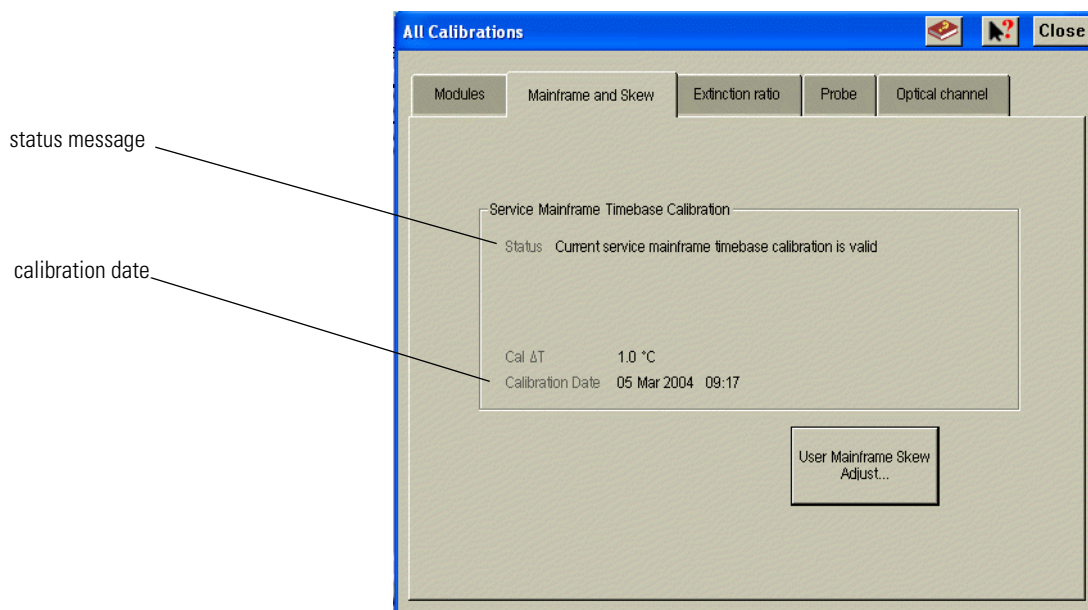

Figure 1-24. Mainframe timebase calibration status and date
- a** On **Calibrate** menu, click **All Calibrations**. Click the **Mainframe and Skew** tab. Record the calibration date for use later in this procedure. See Figure 1-24.
- g Confirm that the displayed calibration date is the same date that you recorded in Step 2. Verify that the displayed status message reads “Current service mainframe timebase calibration is valid.” See Figure 1-24 on page 1-33.